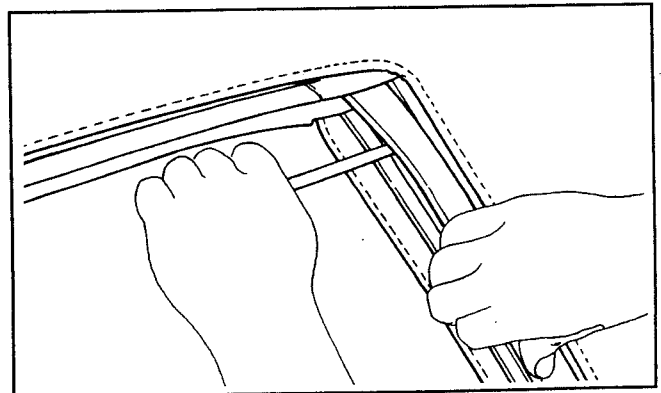

Figure 43. Adjust B-Pillar Weatherstrip
3. Tighten the screws (Fig. 43).